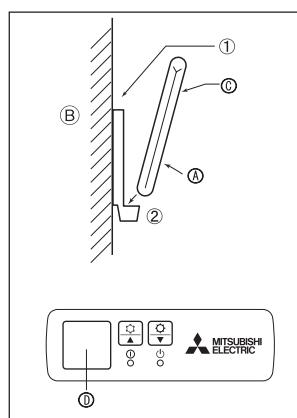

Fig. 6-5
2) Installationsmetod (Fig. 6-5)